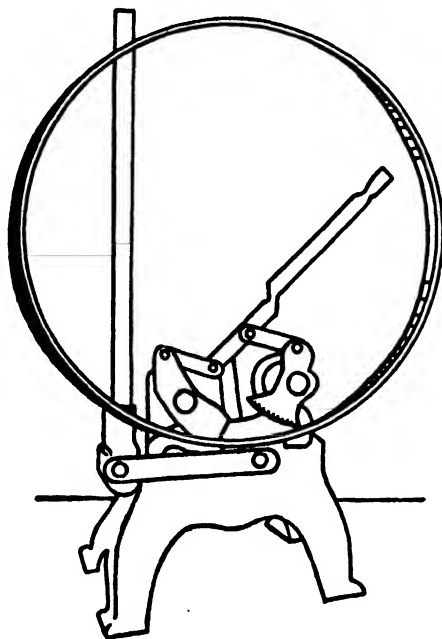

FIG. 65
13. Heat the tire and place it in the tire shrinker. Fig. 65. Clamp and shrink, meanwhile hammering down any kinks that may be forming. Remove from the shrinker, place on the anvil, first on the edge then flatwise, hammering as you do so, until the tire is smooth. Run or measure the tire to see if it has enough draw. Repeat these operations until the pointer of the tire measuring wheel falls from  $\frac{1}{8}$ " to  $\frac{5}{16}$ " to the right of the pencil mark. The amount of the draw will depend upon the thickness of the tire and the condition